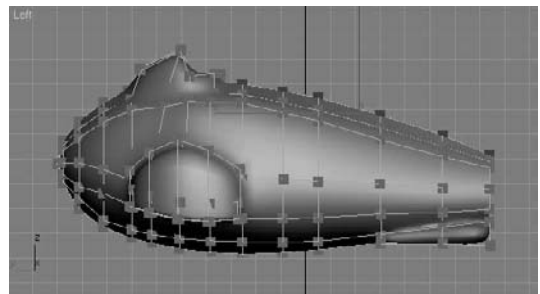

Figure 5.84
5. Select the vertices that run along the middle. Select and move a few at a time. From the side view, you can see that those vertices stick up farther than the row below; this is what causes the ridge. Make the vertices level with the row of vertices below them by moving them along the Z-axis, as shown in Figure 5.84. (This step will be easier if you turn off the Use NURMS in the Subdivision Surface rollout.)